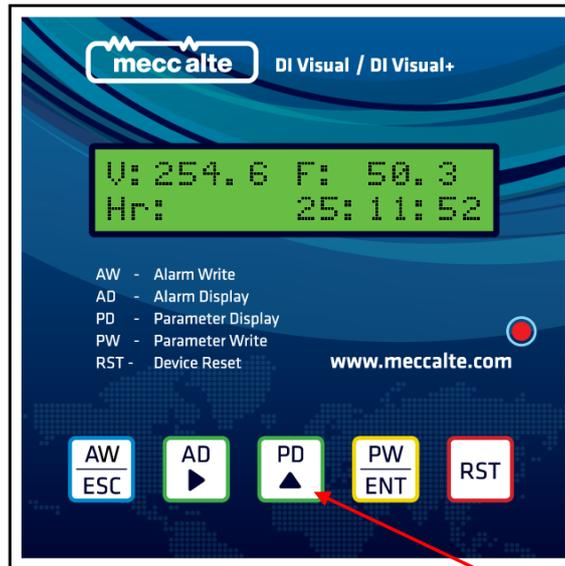

fig. 17
- 1) Keep the  key pressed as shown in Fig. 17 above to pull the Parameter values from DSR and display them on the LCD. Keep the key pressed until you see “Please Wait” message displayed or first parameter displayed.